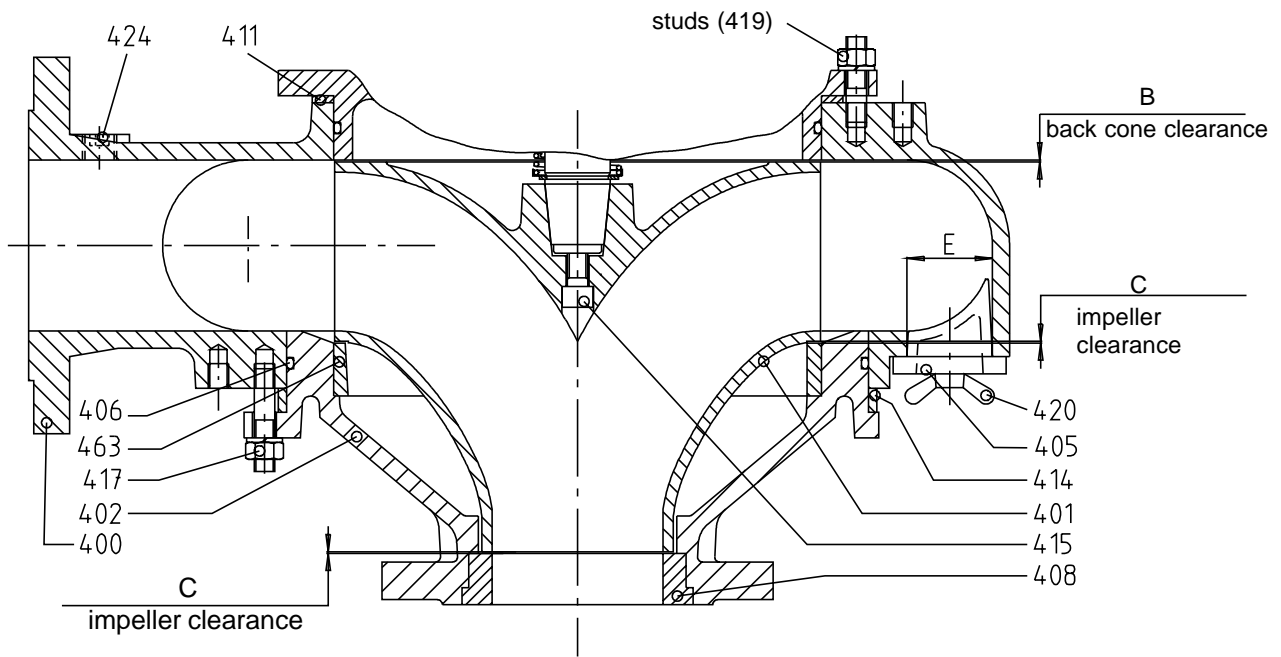

Fig. 2
Tighten fasteners (419) again, and with a feeler gauge, check the actual clearance between impeller and wear ring (reaching in through the suction of the pump). If the clearance "C" is significantly different to the table (Fig. 2), it is possible that the wear is excessive or not uniform: disassembly and inspection is recommended.
3.3.3 REMOVAL SUCTION COVER AND WEAR RINGS (Fig. 2)